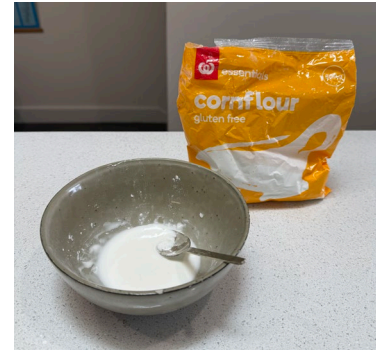

Figure 5: cornflour mixed with water
- Use a spoon to mix custard powder or cornflour with water to create a paste (figure 5).